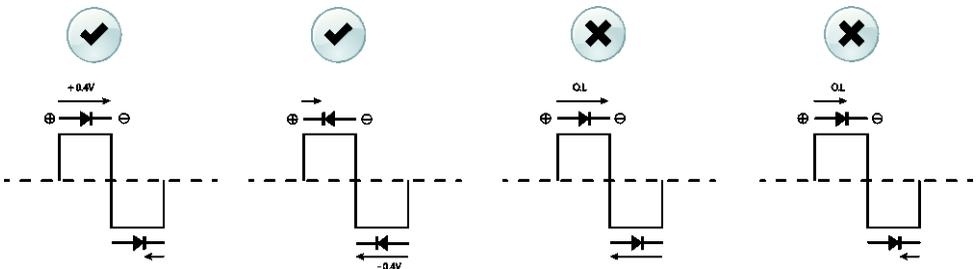

Figure 5.1 Diode testing
The meter checks diodes using an alternating test signal sent through the diode in both directions. This allows the user to check the diode without having to reverse the polarity manually. The meter display will show $\pm 0.4\text{--}0.8\text{V}$ for a good component or *O.L* for a bad (opened or shorted) component. See Figure 5.1.
4. Connect the probe leads in series with the part in accordance with Figure 5.1.